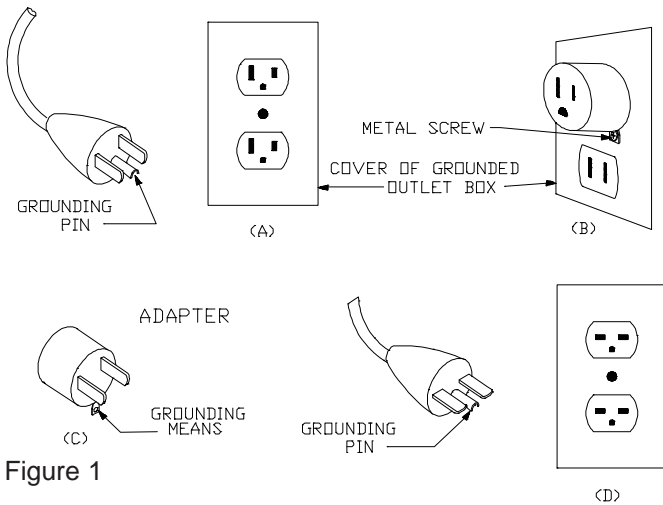

Figure 1
3. This heater is provided with a grounded-type plug and cord as shown in Fig. 1. An adapter is available for connecting three blade grounding-type plugs to two-slot receptacles. The green grounding lug extending from the adapter must be connected to a permanent ground such as a properly grounded outlet box. The adapter should not be used if a three-slot grounded receptacle is available.